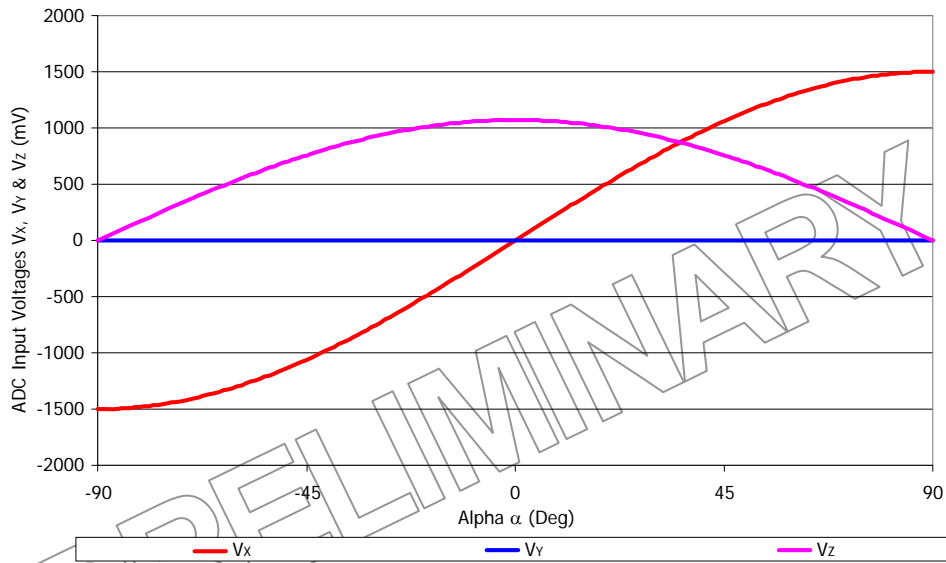
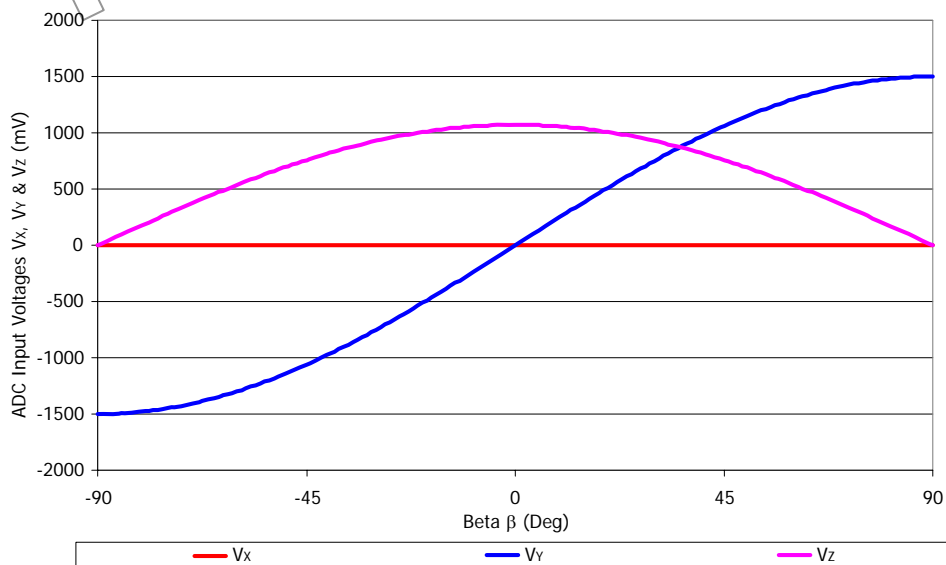

Figure 8 – ADC Input Signals –  $\beta = 0$  Deg –  $V_x \propto B_x \propto \sin(\alpha)$ ,  $V_y = B_y = 0$  &  $V_z \propto B_z \propto \cos(\alpha)$
Figure 9 – ADC Input Signals –  $\alpha = 0$  Deg –  $V_x = B_x = 0$ ,  $V_y \propto B_y \propto \sin(\beta)$  &  $V_z \propto B_z \propto \cos(\beta)$
Three (3) differential voltages corresponding to the three (3) components of the applied flux density are provided to the ADC (Analog-to-Digital Converter – Figure 8 and Figure 9). The Hall signals are processed through a fully differential analog chain featuring the classic offset cancellation technique (Hall plate quadrature spinning and chopper-stabilized amplifier).